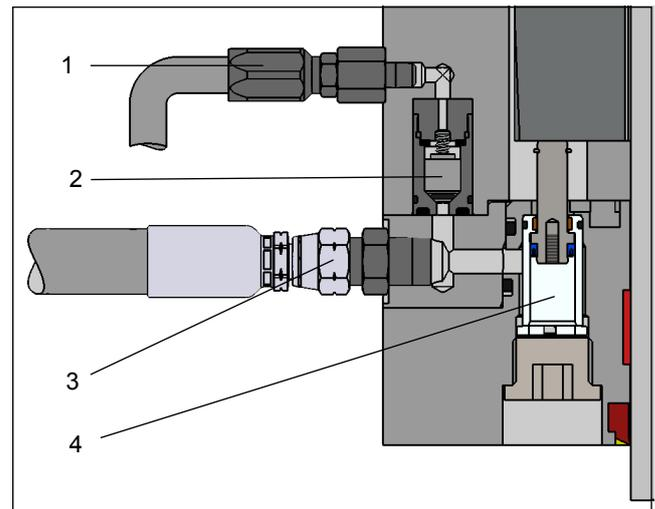

Fig. 4: Auto-bleeder integrated in Safety Catcher series K/TA
A suitable pipe line provided by the customer has to be led from port E (1) *Fig. 4* of the auto-bleeder to the tank to drain the exhausted air-oil mixture. Additional information can be found in the manual delivered with the Safety Catcher.
⚠ In any case, it is mandatory to connect a pipe or hose to port E (1) *Fig. 4* in order to lead the air-oil mixture exhausted during operation to the tank.